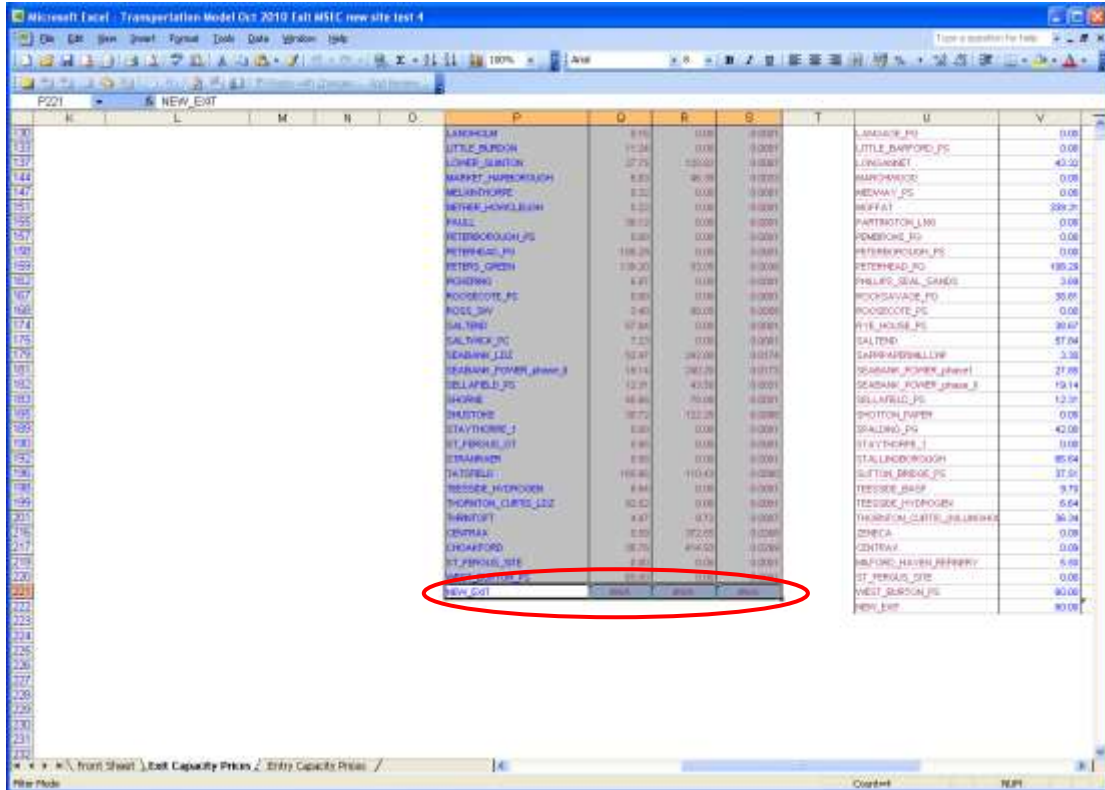

Figure 15: Updated Tariffs – Raw (Unadjusted) Entry and Exit Prices table
8. Navigate to the *Tariffs – Raw (Unadjusted) Entry and Exit Prices* table (columns L – S). You will notice that “NEW\_EXIT” has been added to the bottom of *Exit Point* column (column P), as shown in Figure 15, and that the following formulae from the row above have been copied down to the new row entry;